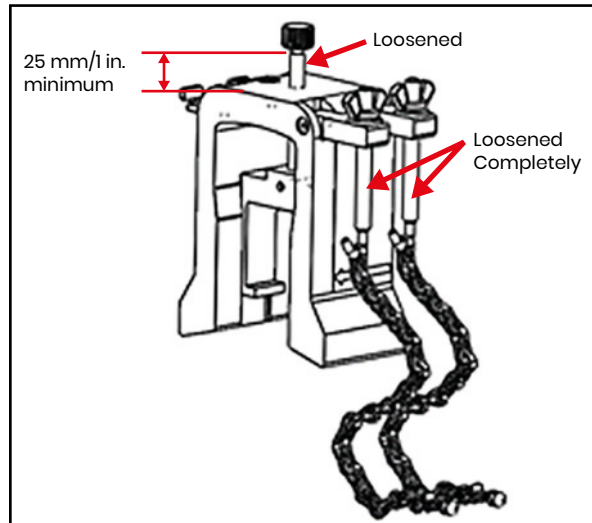

Figure 35: Loosened Yoke Screw and J-Hooks
1. Loosen the yoke screw at least 25 mm/1 in. (all the way for pipes <50 mm/2 in.) and loosen the J-Hooks all the way (see Figure 35 below).